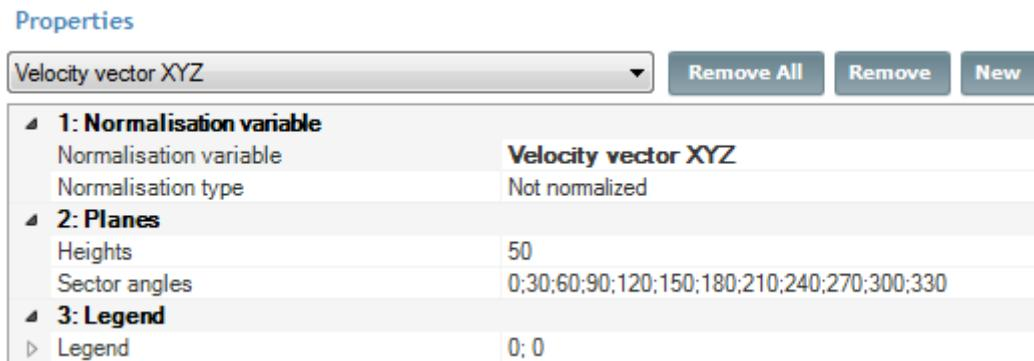
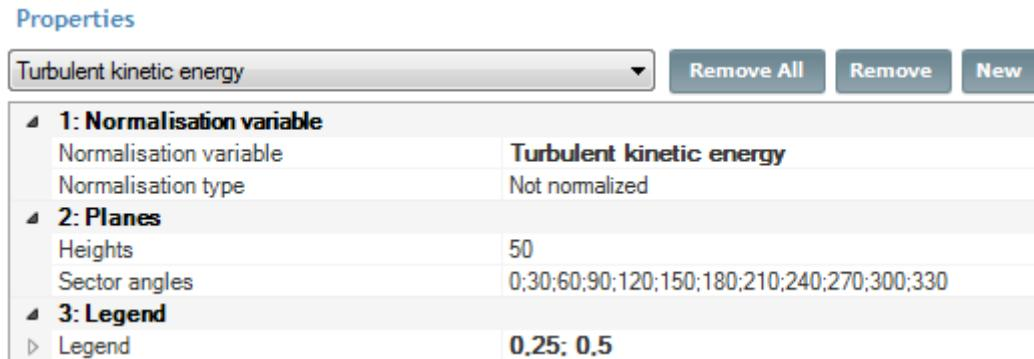

Figure 38 - Properties panel, Results module, extraction of Velocity vectors
Figure 39 - Properties panel, Results module, extraction of Turbulent kinetic energy
Run the module. Inspect the report, the velocity vector, and the turbulent kinetic energy for all 12 sectors are available as shown in Figure 38 and Figure 39.
**NOTE:** That the default legend setting of 0;0 sets the minimum and maximum values found in each extracted dataset as legend limits. This limit has been reset for the turbulent kinetic energy in Figure 39. This is done to better explore details in the results as seen in Figure 41.